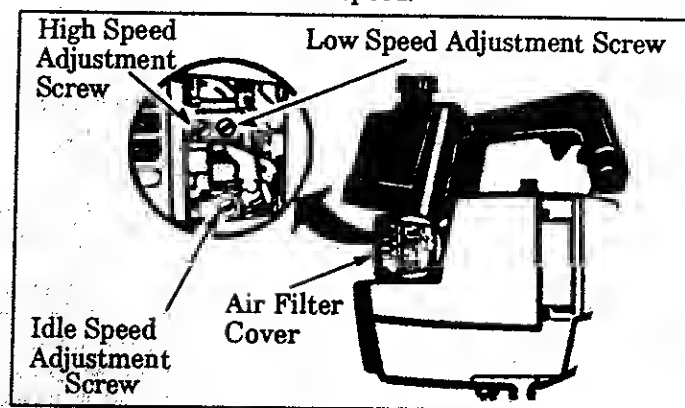

Figure 26
- Turn the Low speed Mixture Screw and the High speed Mixture Screw (Figure 26) clockwise until they stop. *Do not turn the screws until they are tight as damage to the needle seats can occur.*
- Adjust Idle Speed Screw (Figure 26) until the engine continues to run without stalling and without the trimmer head moving.
- If the engine does not accelerate smoothly, turn the Low speed mixture Screw (Figure 26) counterclockwise ⬅ a small amount (no more than the width of the slot in the adjusting screw).
- Turn the Low speed Mixture Screw (Figure 26) slowly clockwise ➡ until the speed starts to drop. Note this position.
3. Turn High Speed Mixture Screw (Figure 26) very slowly clockwise  until engine speed is reduced.